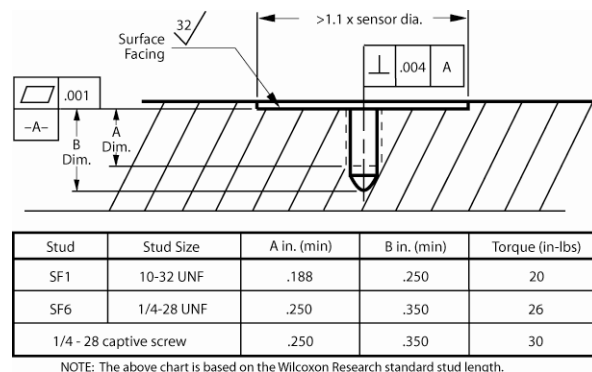

Figure 2: Stud mounting and torquing
#### Procedure (see figure 2):
7. Torque the sensor its appropriate value as shown in Figure 2, or refer to the Wilcoxon catalog section "Mounting Accessories" for stud mount torque values.